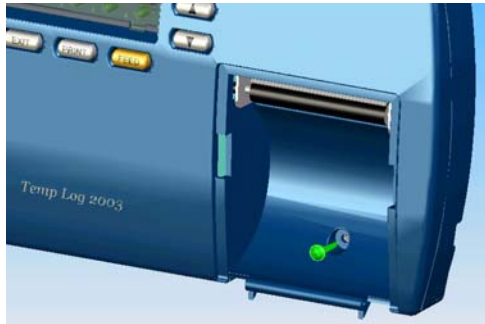

Figure 5: Securing the Unit to the Bracket
4. Fasten one screw through the hole under the paper roll to secure the VTR to the bracket, as shown in Figure 5.